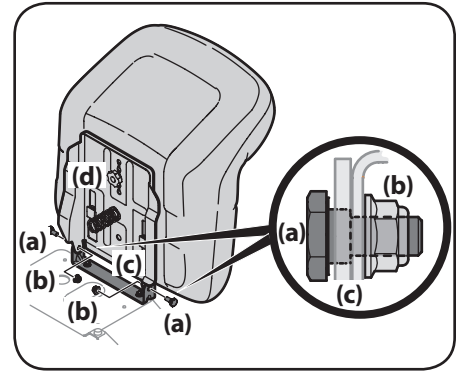

Figure 2-8
6. Install the two shoulder bolts (a) and lock nuts (b) removed from the seat mounting bracket (c) in Step 1. See Figure 2-8.
7. To adjust the position of the seat, remove the adjustment knob (d) on the bottom of the seat. Slide the seat forward or backward as desired. Retighten the adjustment bolt (d). Refer to Figure 2-8.